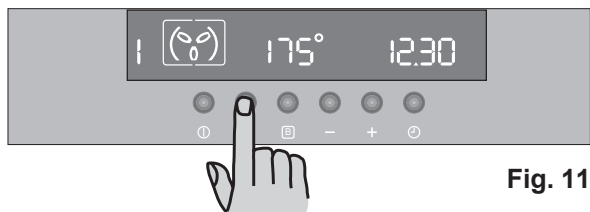

Fig. 11
- 1) Place food in the oven, switch on the oven, select a cooking function and adjust the cooking temperature, if required (Fig. 11).